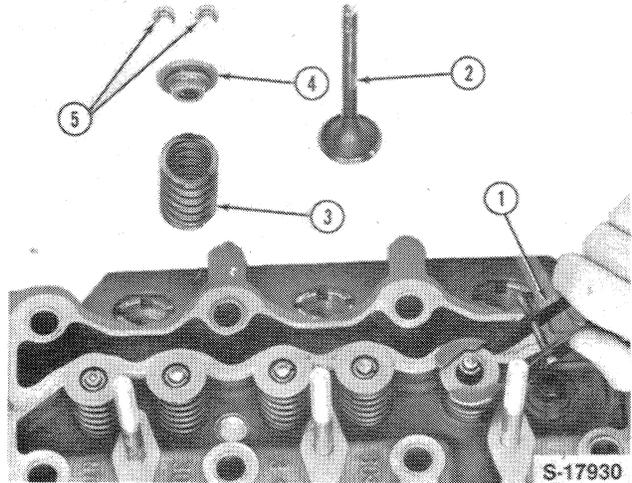

Figure 14
2. Use a valve spring compressor and remove the valve spring retainer locks, spring and spring retainer from the valves, Figure 14.